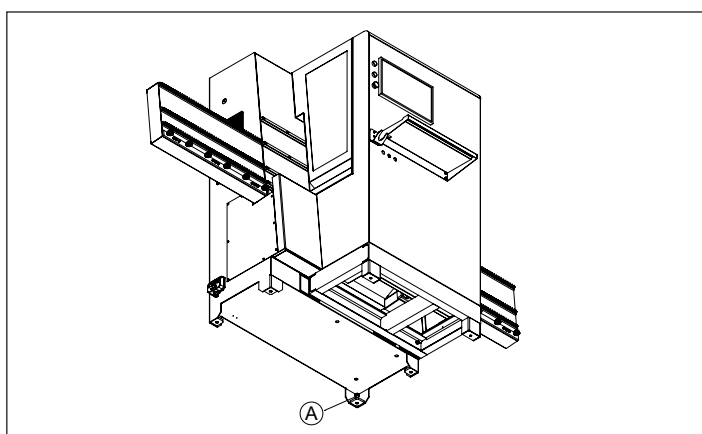

Fig. 4.5
Adjust the bolts (A) in Fig.4.5 on the six legs to make the machine leveled.